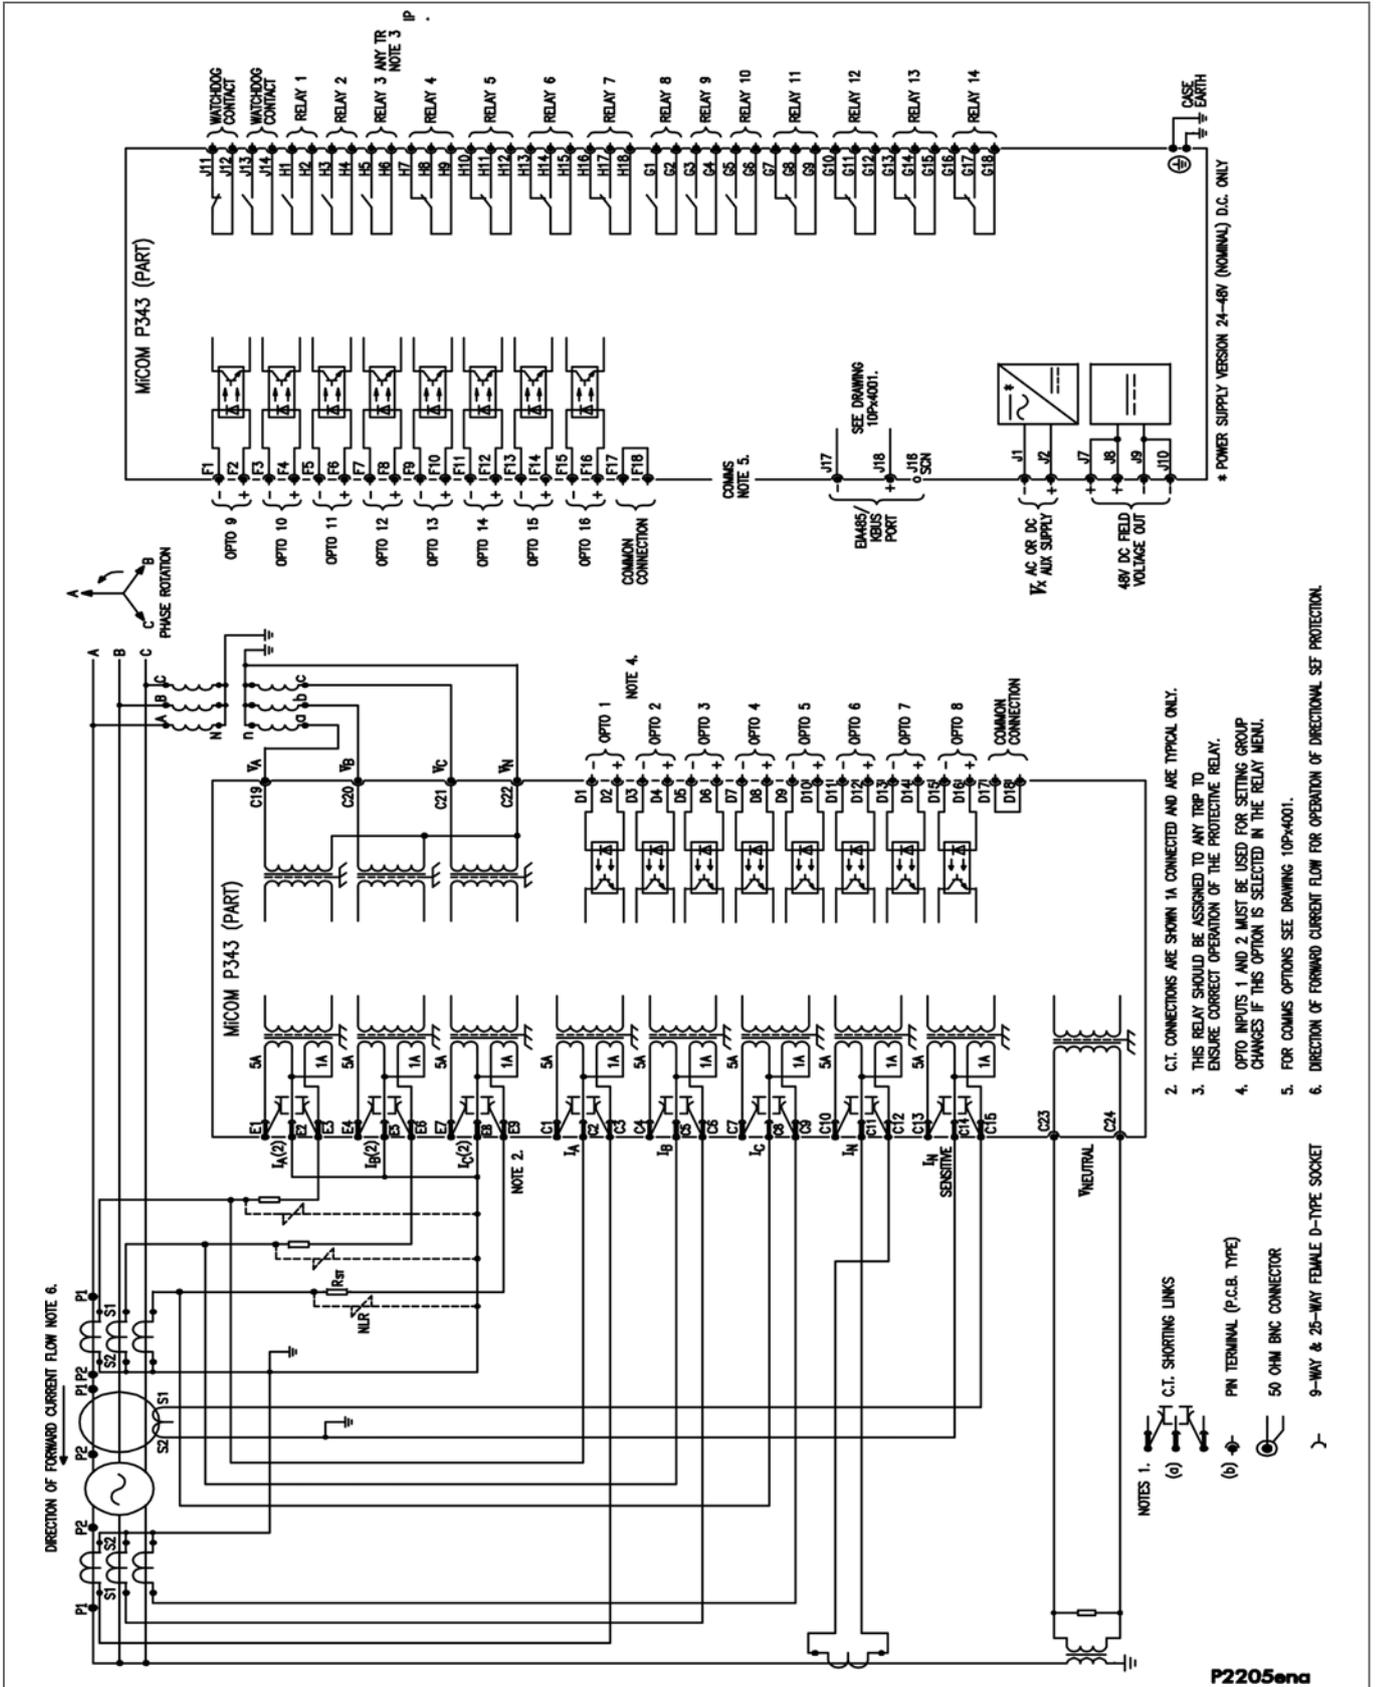

Figure 54 - P343 (60TE) with high impedance differential (16 I/P & 14 O/P)
- Figure 54 - P343 (60TE) with high impedance differential (16 I/P & 14 O/P)